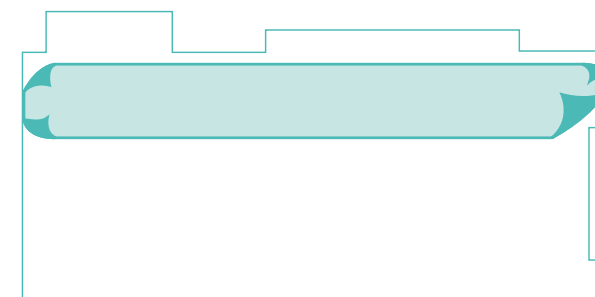

Figure 1 Lining up the first sheet
- ▶ Adjust the lie of the sheet so that the inner edge is parallel with the axis of the room (Fig 1).